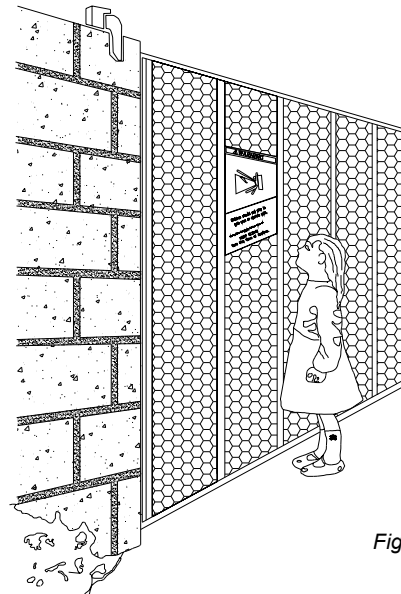

Figure 2
- For ORNAMENTAL “GRILL TYPE” GATES (or any other type of open gate where a handhold or toehold may be achieved), injuries may occur when people put arms through the openings or children “ride” the gate by standing on the bars and holding on to the gate. **THIS POTENTIAL HAZARD CAN BE MINIMIZED BY INSTALLING A MESH SCREEN ON THE GATE.** Allstar strongly recommends the entire gate and adjacent fence area the gate covers when open be meshed or guarded such that a handhold or toehold cannot be achieved. See Figure 2.